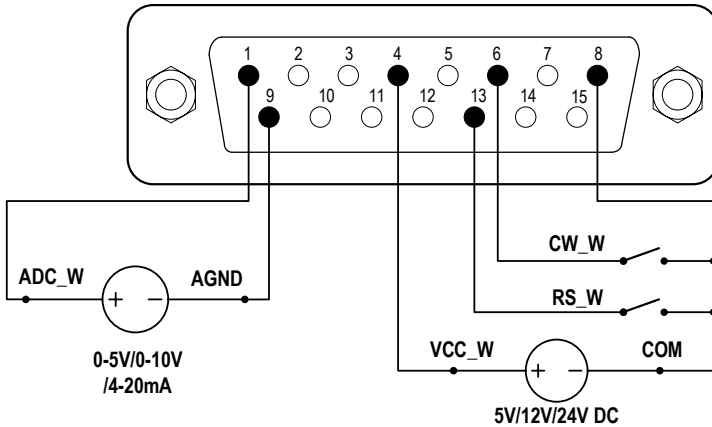
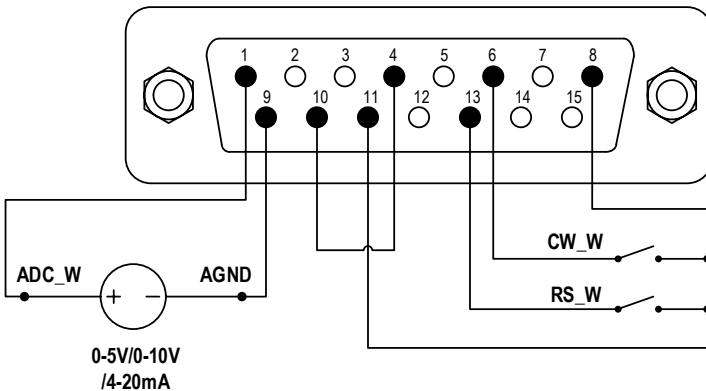

Figure 14. DB15 Wiring with External Power Source
Figure 15. DB15 Wiring with the Internal 12VDC Power Source
- 1) Power off the pump. Wire the DB15 connector as shown in Figure 14 or Figure 15. Connect it to the DB15 port on the rear of the pump.